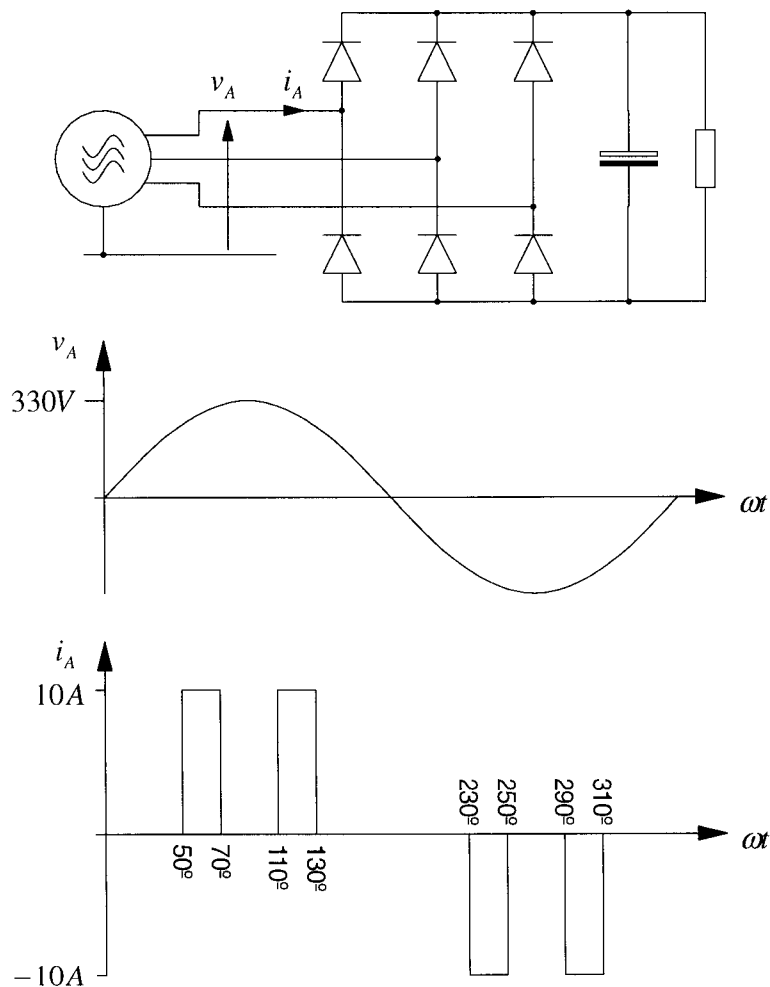

Figure 3.1 A three-phase diode rectifier
- (b) Figure 3.1 shows a three-phase rectifier and a simplified representation of a current and the corresponding phase voltage.
- (c) Draw a circuit diagram of an alternative to the rectifier in Figure 3.1 that can achieve a low distortion factor. Describe how the circuit should be operated and discuss the displacement factor of the circuit. [6]